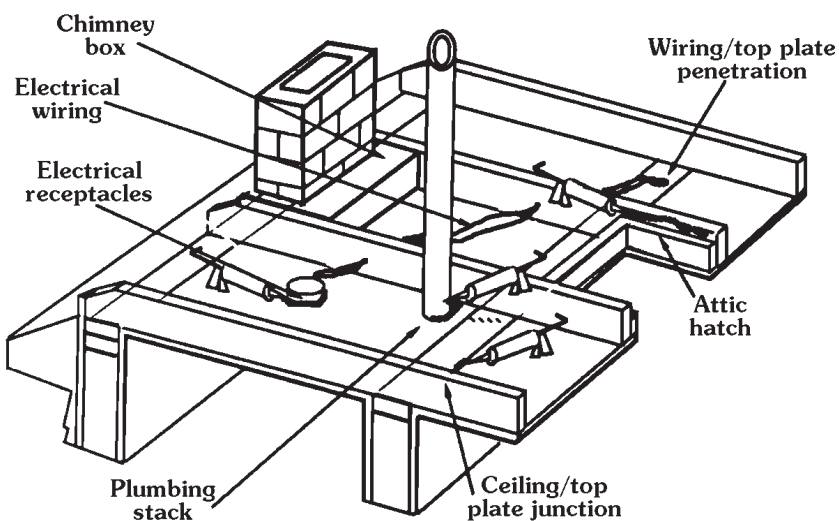

Figure 7.6: Sealing penetrations in the attic
- Provide flexible air- and vapor-tight seals around plumbing penetrations (Figure 7.6).